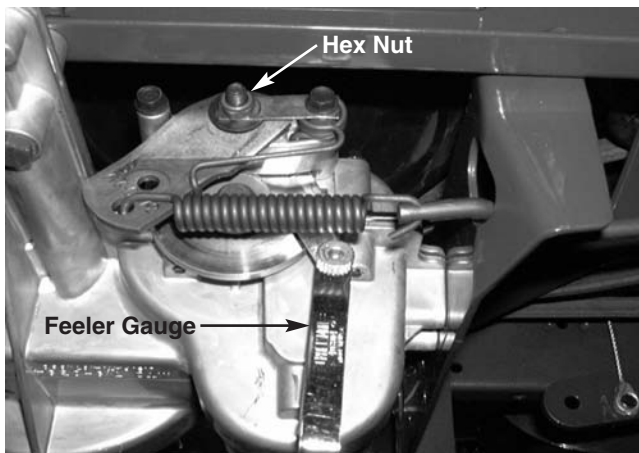

FIGURE 1.
- 3). Slide an .011" feeler gauge between the brake disc and the brake puck. See figure 1.